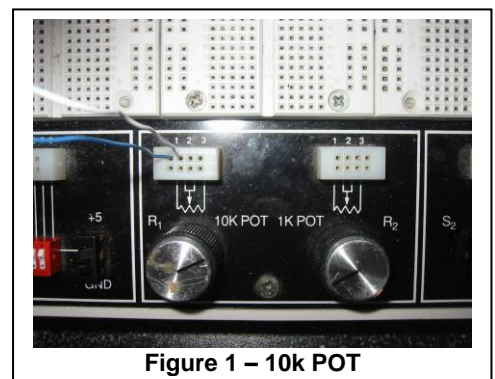

Figure 1 – 10k POT
1. Inserted two jumper wires into terminals 1 and 2 of the 10K POT as shown in **Figure 1**. Set the potentiometer knob to the middle of its travel.